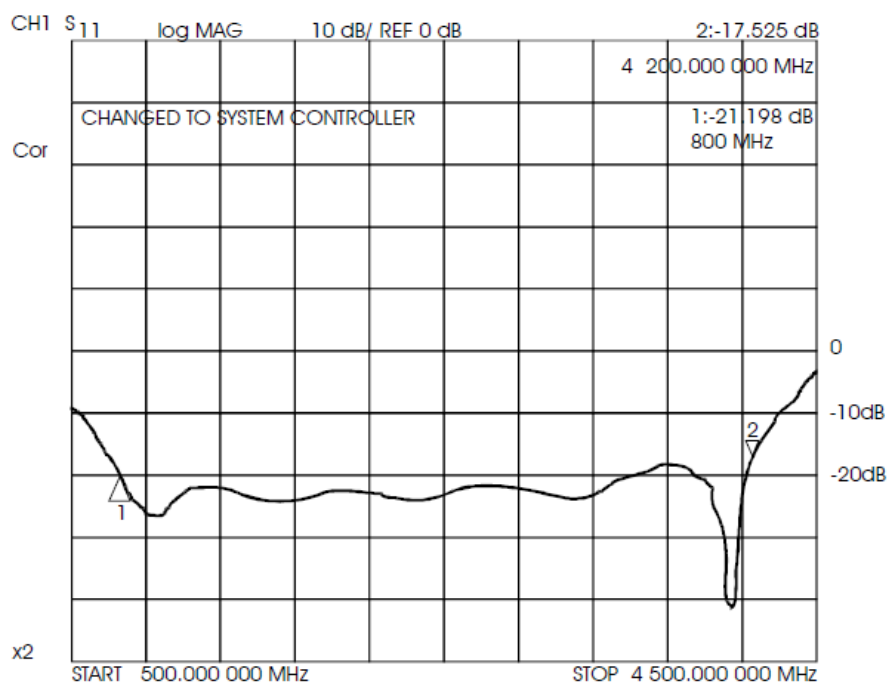

Figure 4-5. Typical 4-Way Combiner Return Loss: Combined Output Port
6. A typical 4-Way Combiner Combined Port Return Loss is shown in Figures 4-5. The unused ports must be terminated when checking the Insertion Loss.